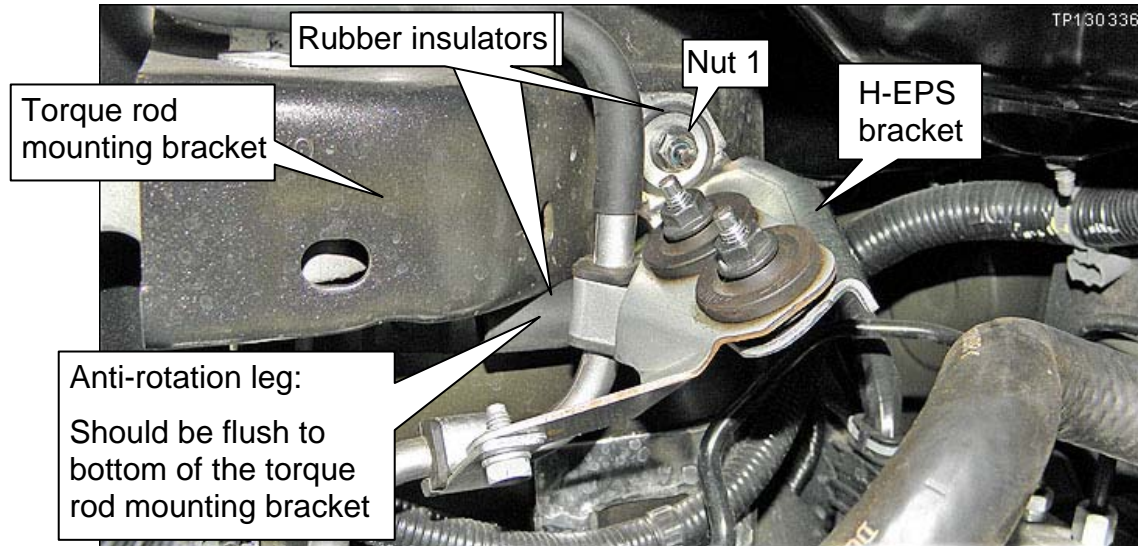

Figure 17
16. Make sure the anti-rotation leg of the H-EPS bracket is flush to the bottom of the torque rod mounting bracket (see Figure 17 and 18 as they apply).
1a. Remove the 3 nuts shown in Figure 17.